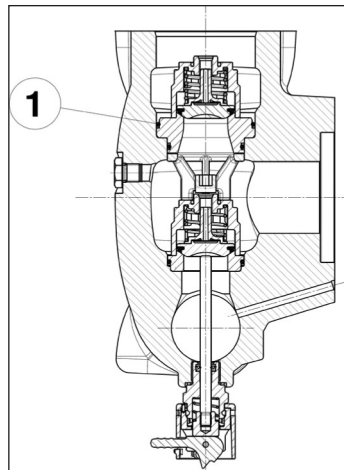

Fig. 122
Pay special attention to fitting the O-ring shown in pos. ①, Fig. 122.